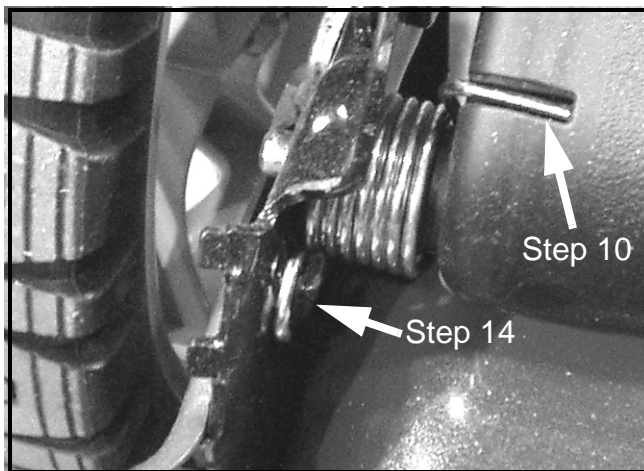

FIGURE 2
10. Assemble the LH and RH Torsion Door Springs, Items 4 and 5, onto the pivot rod/door subassembly, ensuring the spring's straight arm is inserted in the door's molded in pocket. See Figure 2.
14. With the rear door down and using a pair of long nose pliers and/or a flat blade screw driver, set the hook end of the door torsion springs onto the extruded tab on each handle bracket. See Figure 2.